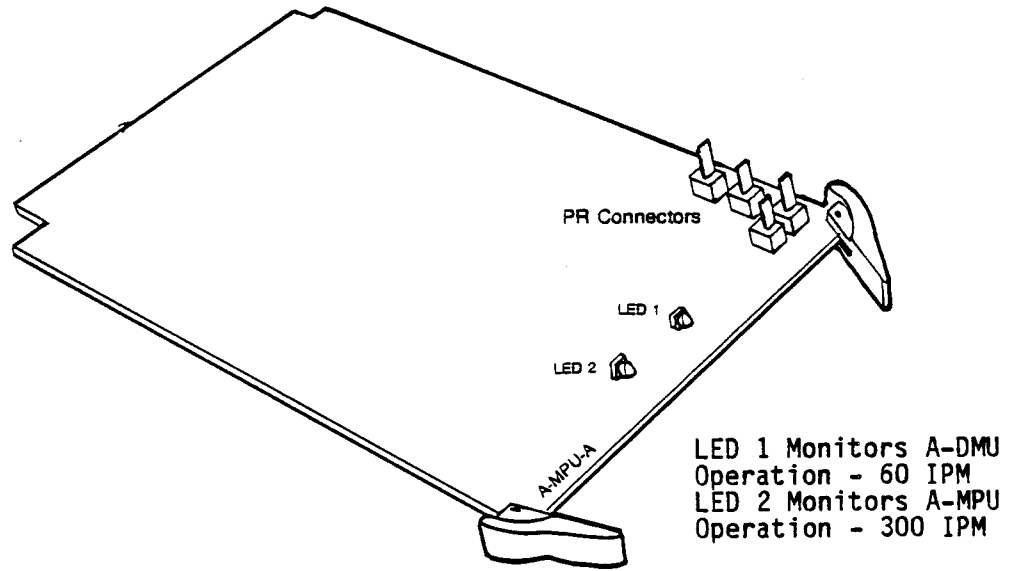

Figure 5-7 A-MPU PCB
5.09 The A-MPU-B PCB has four connectors, PR1 through PR4. These connectors should be strapped from 1 to 2 (Figure 5-7).